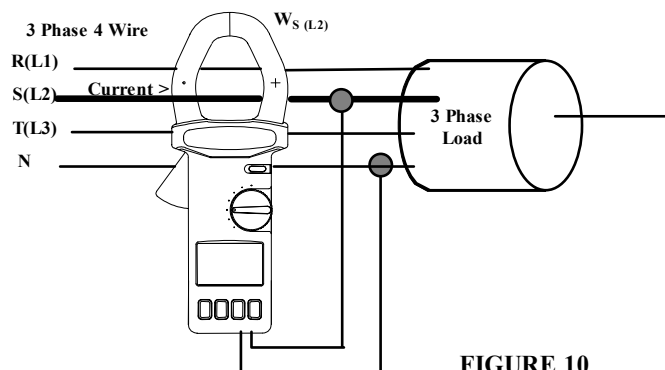

FIGURE 10
2. Measure  $W_S$  (or  $W_{L2}$ ) (Fig. 10).